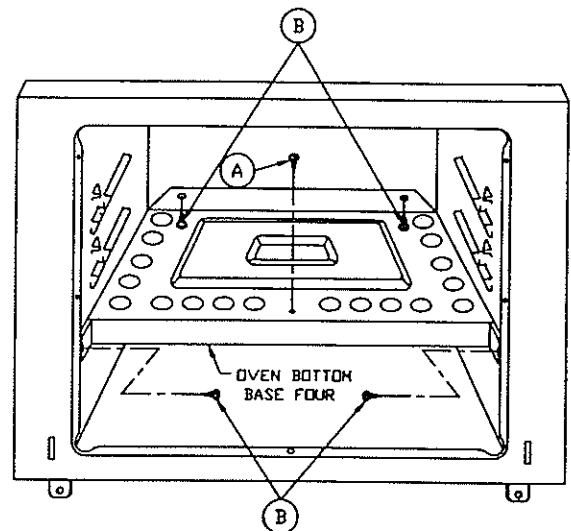

Figure 7
**To Remove:** When cool, remove the oven rack. Remove the one (1) screw and nut that secures the oven burner assembly to the oven bottom (A Figure 7). Remove the four (4) screws that secure oven bottom to the oven sides and back (B Figure 7). Hold oven bottom and slide it out of the oven.
**To Replace:** Position oven bottom rear flange to align with the two holes in back of the oven. Secure with (2) screws. Secure oven bottom to oven sides with the two (2) screws (see B Figure 7).